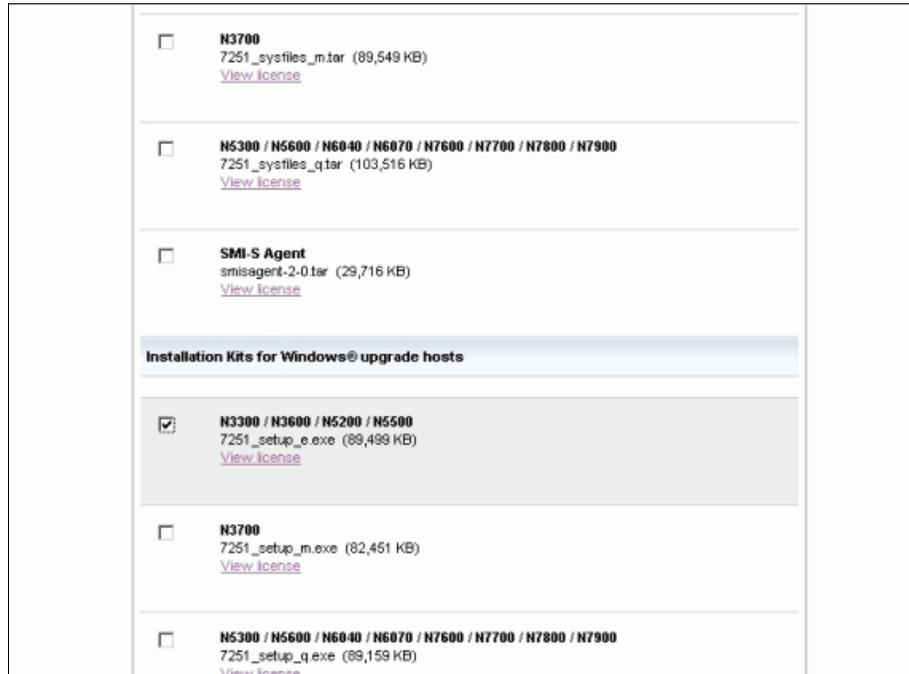

Figure A-5 Installation kits
5. Select the installation kit that you want to download. Check and confirm the license agreement to start downloading the software. Example on Figure A-5.